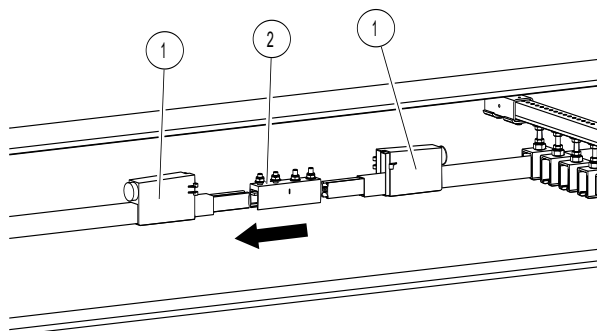
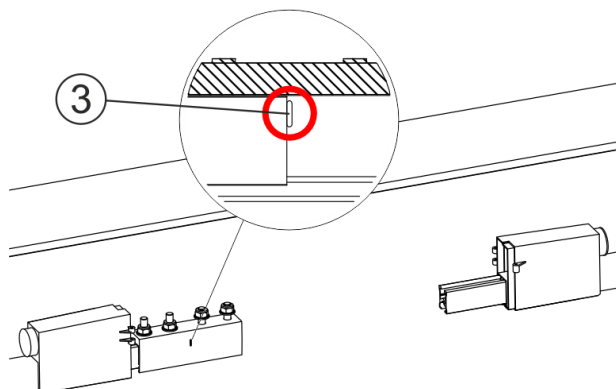
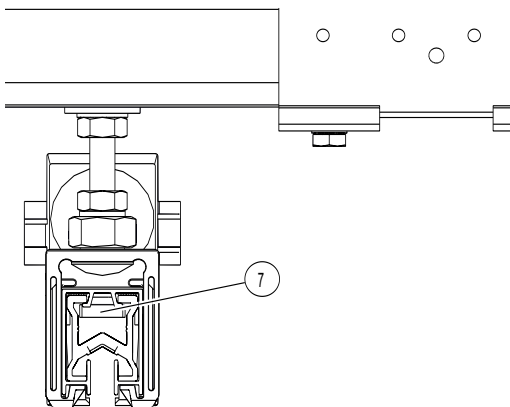

Fig. 70: Slide the connector into the first conductor bar end through to the stopper
Fig. 71: Connector with stopper (Pos. 3) (aluminum-stainless steel or CopperECO conductor rail) - slid into the first conductor bar end
Fig. 78: The clamping plate of the connector lies in the hollow profile of the connector
- Slide the connector (Pos. 2) through to the stopper (Pos. 3) in the first conductor bar end (see Fig. 70 and Fig. 71). Depending on the function, a gap of 2 to max. 3 mm between the rail ends is functionally necessary. The clamping plate (Pos. 7, see Fig. 78) must lie in the hollow profile of the conductor bar.